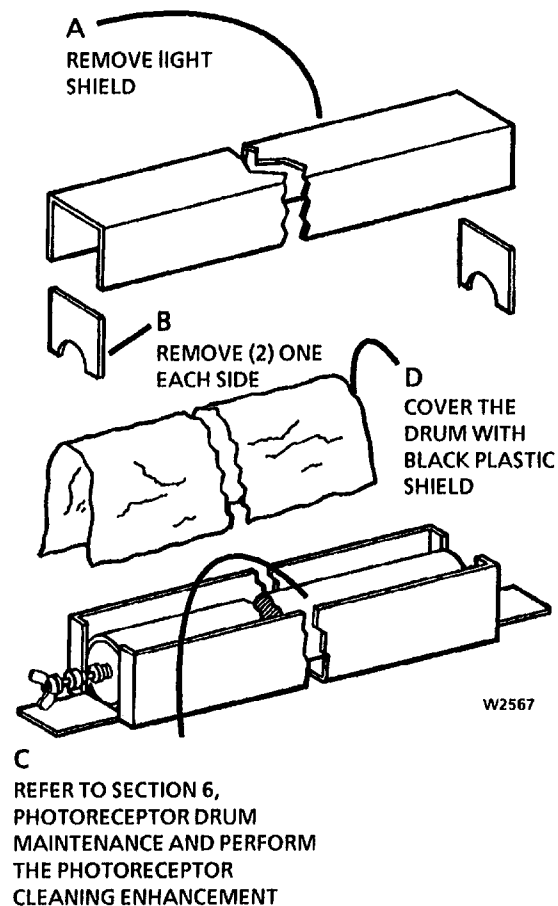

Figure 3. Prepare the Drum for Installation
2. (Figure 3): Prepare the Drum for installation.